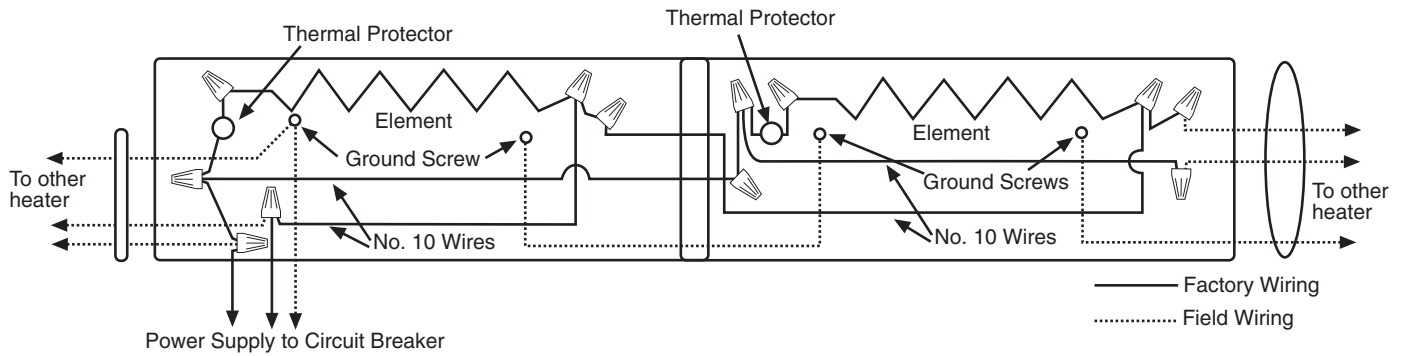

Fig. 7
9. Following the wiring diagram secured to the heater, make the electrical connections. Refer to Fig. 7 to connect the other heaters in parallel. Grounding of the other heaters is accomplished by connecting a jumper wire (not supplied) between the two adjacent heaters.
IMPORTANT NOTE: These heaters are provided with a built-in safety limit (Thermal Protector— see Fig. 7) to automatically turn off the heater if it is blocked or otherwise overheats due to an abnormal condition. The heaters should not be cycling off on this safety control during normal use. If this is occurring, check heater installation to assure it has adequate clearances and the free airflow around heater is not restricted. If heater continues to cycle on this safety control, discontinue using until it can be inspected and/or repaired by a qualified electrician.